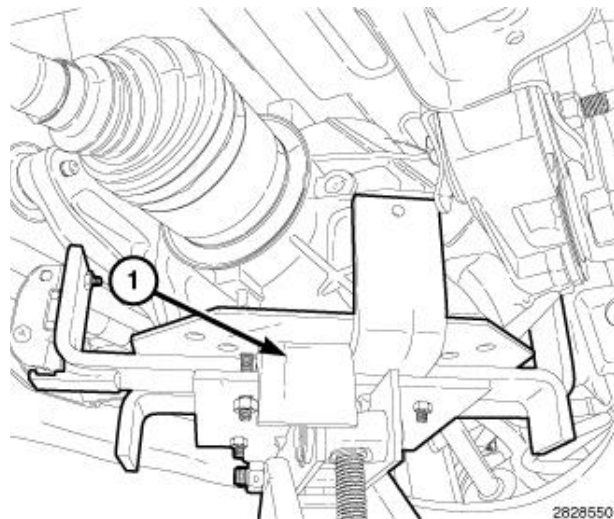

Figure 20 – Support Rear Axle
32. Position transmission jack (1) to rear axle assembly (Figure 20).
14. Remove the transmission jack (1) from under the rear axle assembly (Figure 20).